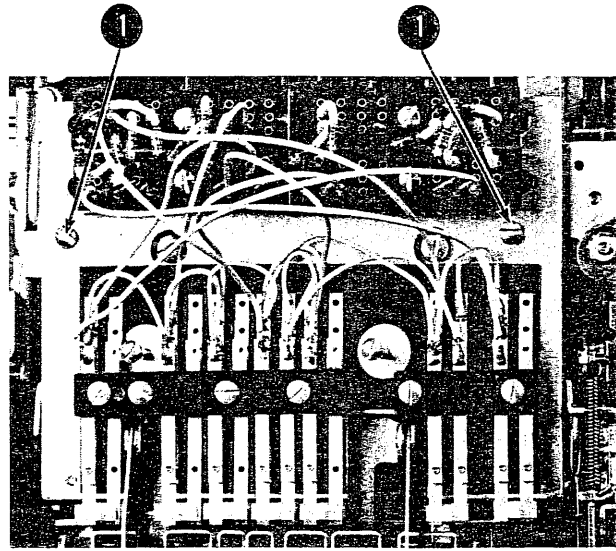

Figure 4-2. Cycle-Clutch and Cycle-Shaft Removal (Step 7)
7. Remove the two screws (No. 1, Figure 4-2) that hold the contact plate to the frame. Remove the contact assembly and hold it to the front with a rubber band.